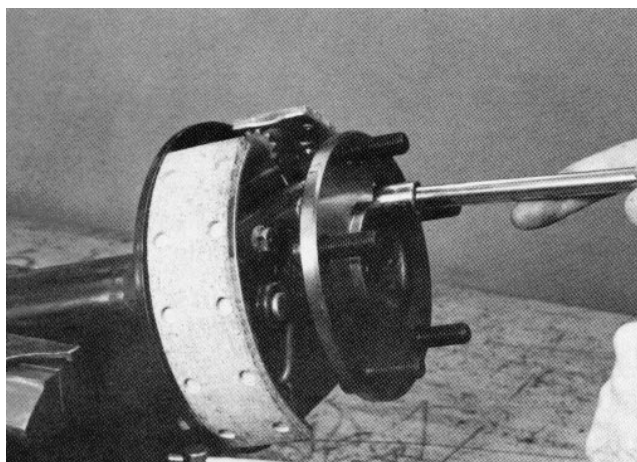

Figure 6
2. Line up the hole in the axle shaft flange and remove the backing plate nuts which hold the axle shaft assembly to the axle housing. Use a 1/2 inch socket wrench (Fig. 6).